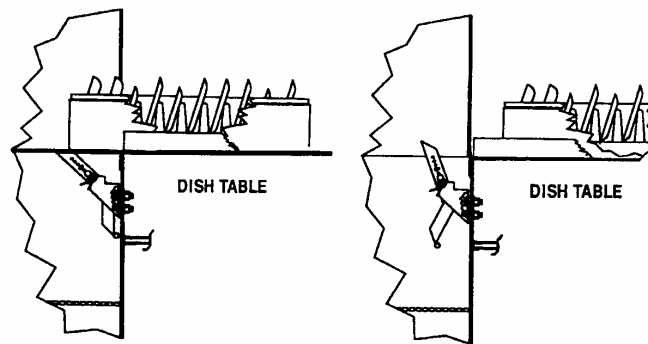

Figure 4. Paddle Lever Installation
3. Measure the distance from the paddle switch to the dishmachine control panel and cut the two conductor cable to length. Using the rubber grommets and cable retainers provided, fasten one end at the paddle switch and run the cable to the dishmachine control panel through a 1/4 inch hole drilled in the control panel. See Figures 4 and 13.